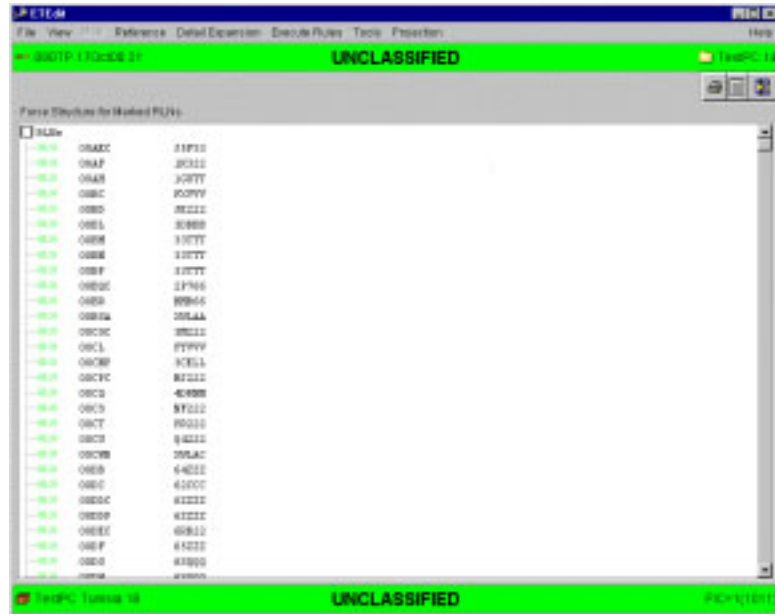

Figure 5.90 ETEdit (Main) Window (Force Structure for Marked RLNs)
4. On the View menu, click Force Structure. The content of the ETEdit window is replaced with the Force Structure for Marked RLNs (Figure 5.90).